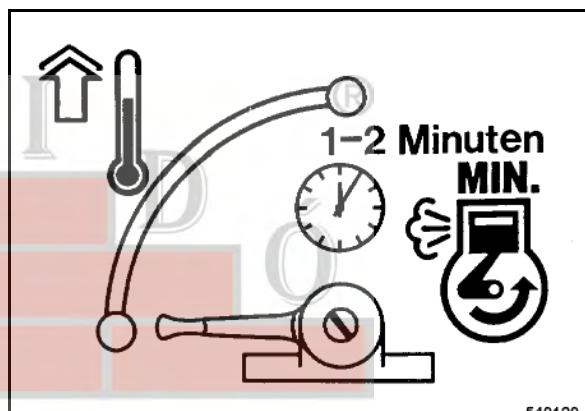

Fig. 17 □
- Set the throttle lever (Fig. 17) to position "MIN" and let the engine run warm for 1 to 2 minutes.